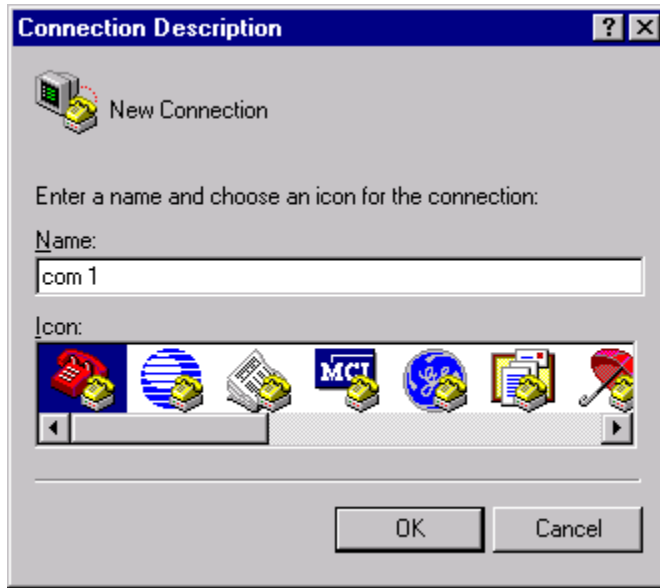

Figure 7-5 “Connection Description” Window
- 3 A window will appear as in Figure 7-5. Enter COM 1 in the name box. Press the OK button.